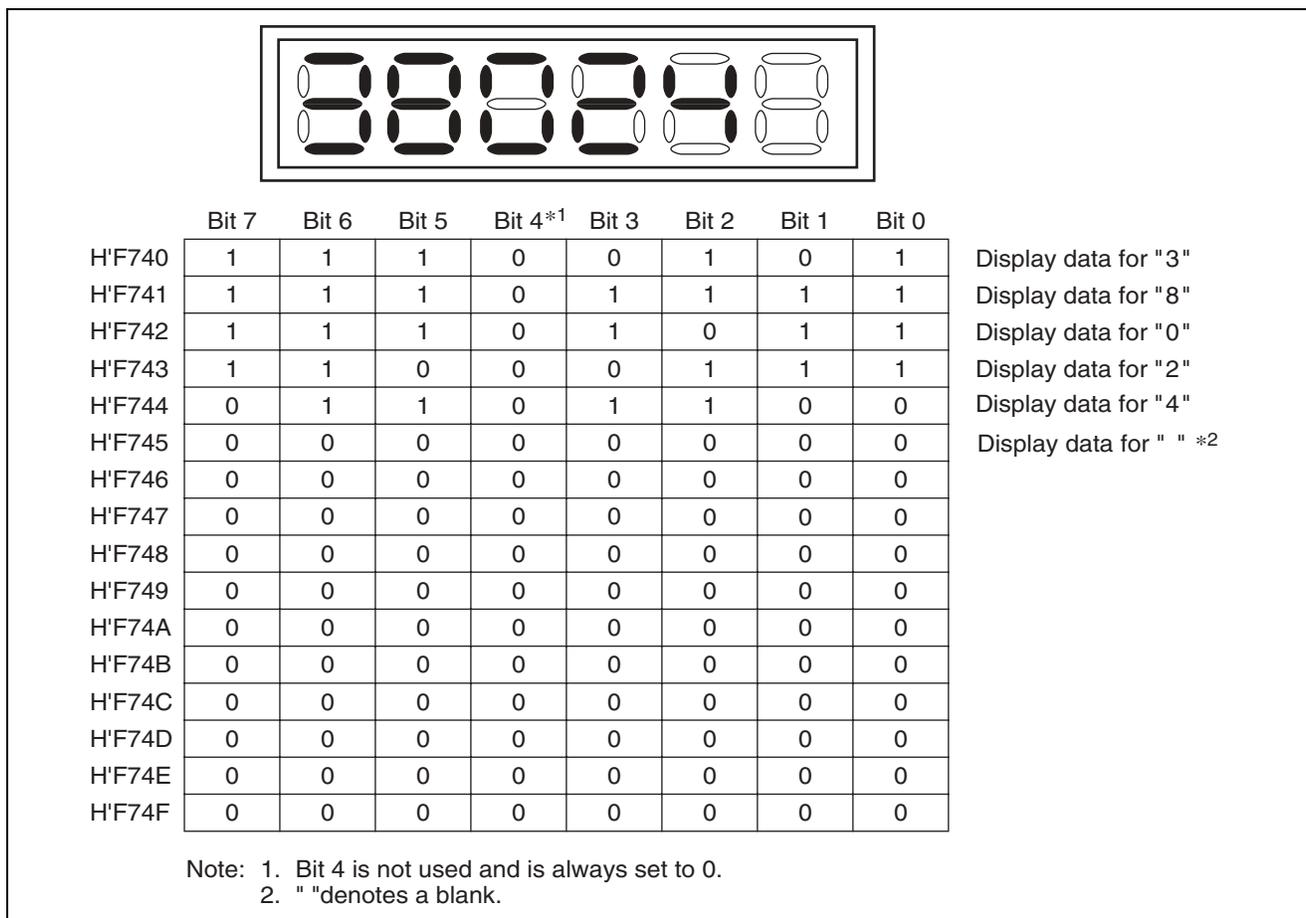

Figure 2.4 Relation between LCD Display and LCD RAM Settings
6. Figure 2.4 shows the relation between the display on the 6-digit 7-segment LCD used in this sample task and data set in the LCD RAM. The numeric characters "38024" is displayed on the 6-digit 7-segment LCD by setting the LCD RAM as shown in figure 2.4.